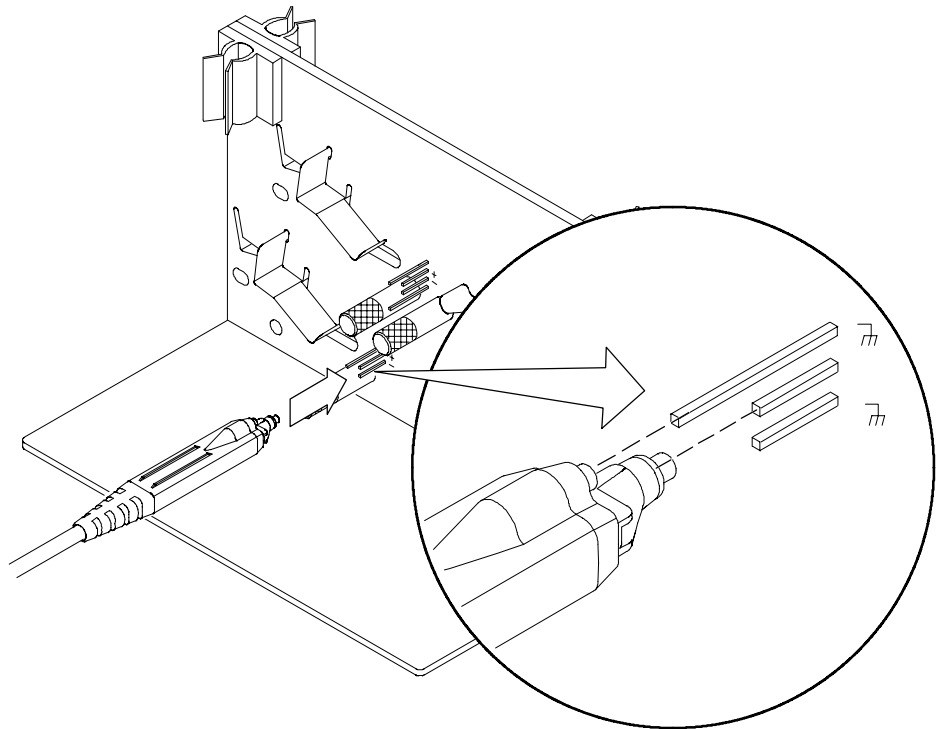

Figure 14: P6249 or P7240 without tips
2. Slide the probe over the top of the ground and middle GAIN CAL pins. Be sure the probe is perpendicular to the fixture. See Figure 14.